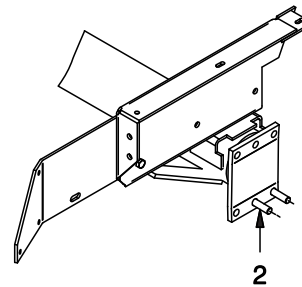

Figure 1 - Mounting Spacer
A. Place (2) of Y18C-1032 bolts through the axle as shown in Figure 1.